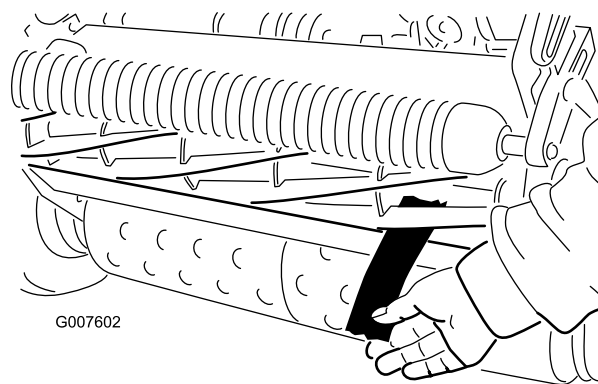

Figure 40
4. On one end of the front side of the reel, insert a long strip of newspaper between the reel and bedknife (Figure 40). While slowly rotating the reel forward,
6. After the adjustment is accomplished, check to see if the reel can pinch paper when inserted from the front and cut paper when inserted at a right angle to the bedknife (Figure 40). It should be possible to cut paper with minimum contact between the bedknife and the reel blades. Should excessive reel drag be evident (more than 7 inch-lb (0.79 N-m)), either backlap or grind the cutting unit to achieve the sharp edges needed for precision cutting; refer to the Toro reel sharpening manual.